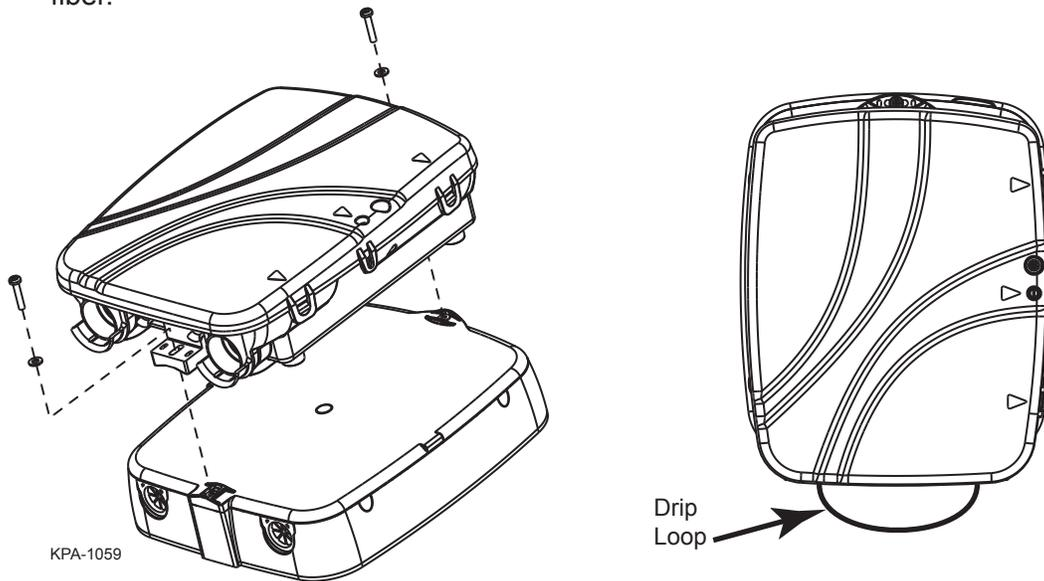

Figure 4
- Step 2:** Attach the FNI-NG to the slack storage device using the mounting holes and the hardware provided (Figure 4).